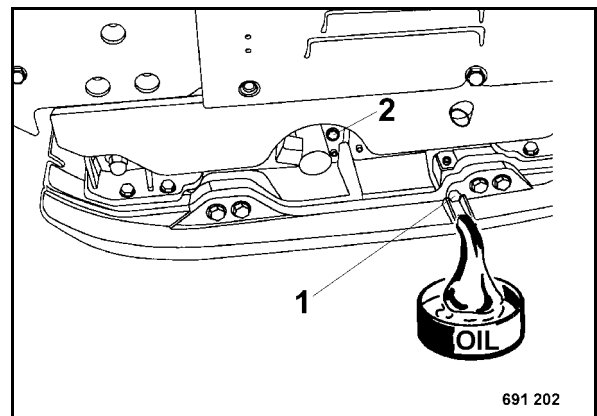

Fig. 68
- Fill in new oil through the oil level inspection bore (Fig. 68), for this purpose park the machine on a slant.